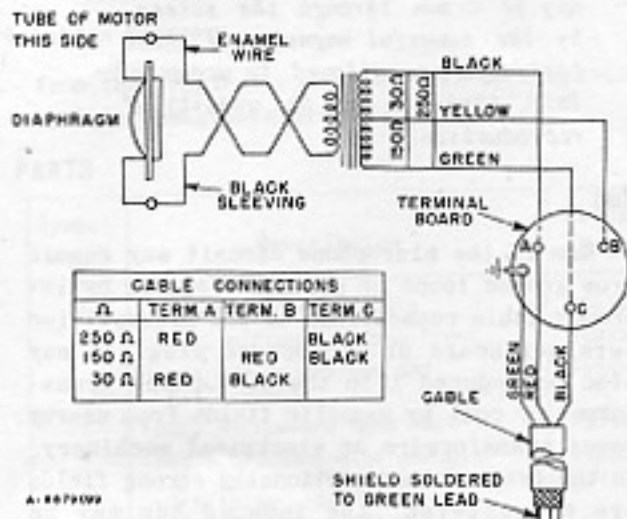
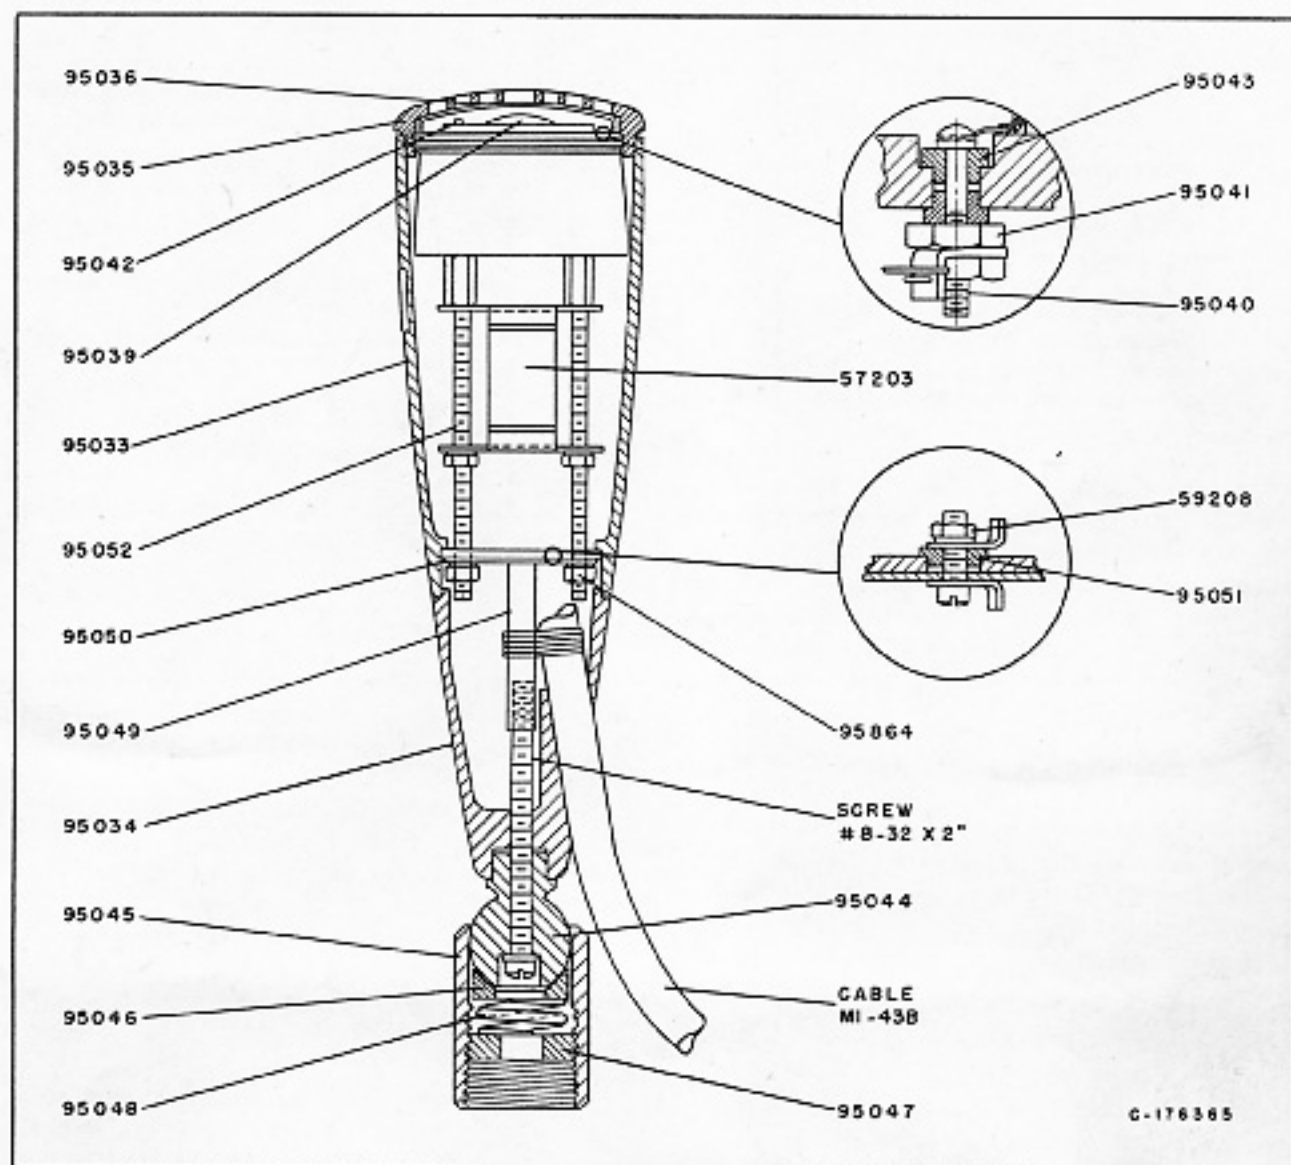

Figure 4 - Connection Diagram
Figure 5 - Parts Location Diagram
30 or 150 ohms, See Fig. 4.
The microphone is shipped connected for an output impedance of 250 ohms. To change the impedance to 30 or 150 ohms, remove the #8-32 two-inch screw shown in Figure 5. Slide the foot down along the cable, thus exposing the terminal board. Change the cable connections according to Figure 4.
2. Remove the #8-32 two-inch screw shown in Figure 5.
4. Dismantle the motor from the case by removing two #95864 nuts. Refer to Figure 5.
Figure 5 and the following parts list are included to provide identification when ordering replacement parts. Order from RCA Replacement Parts Department, Camden, N.J. giving the Stock Number and Description of